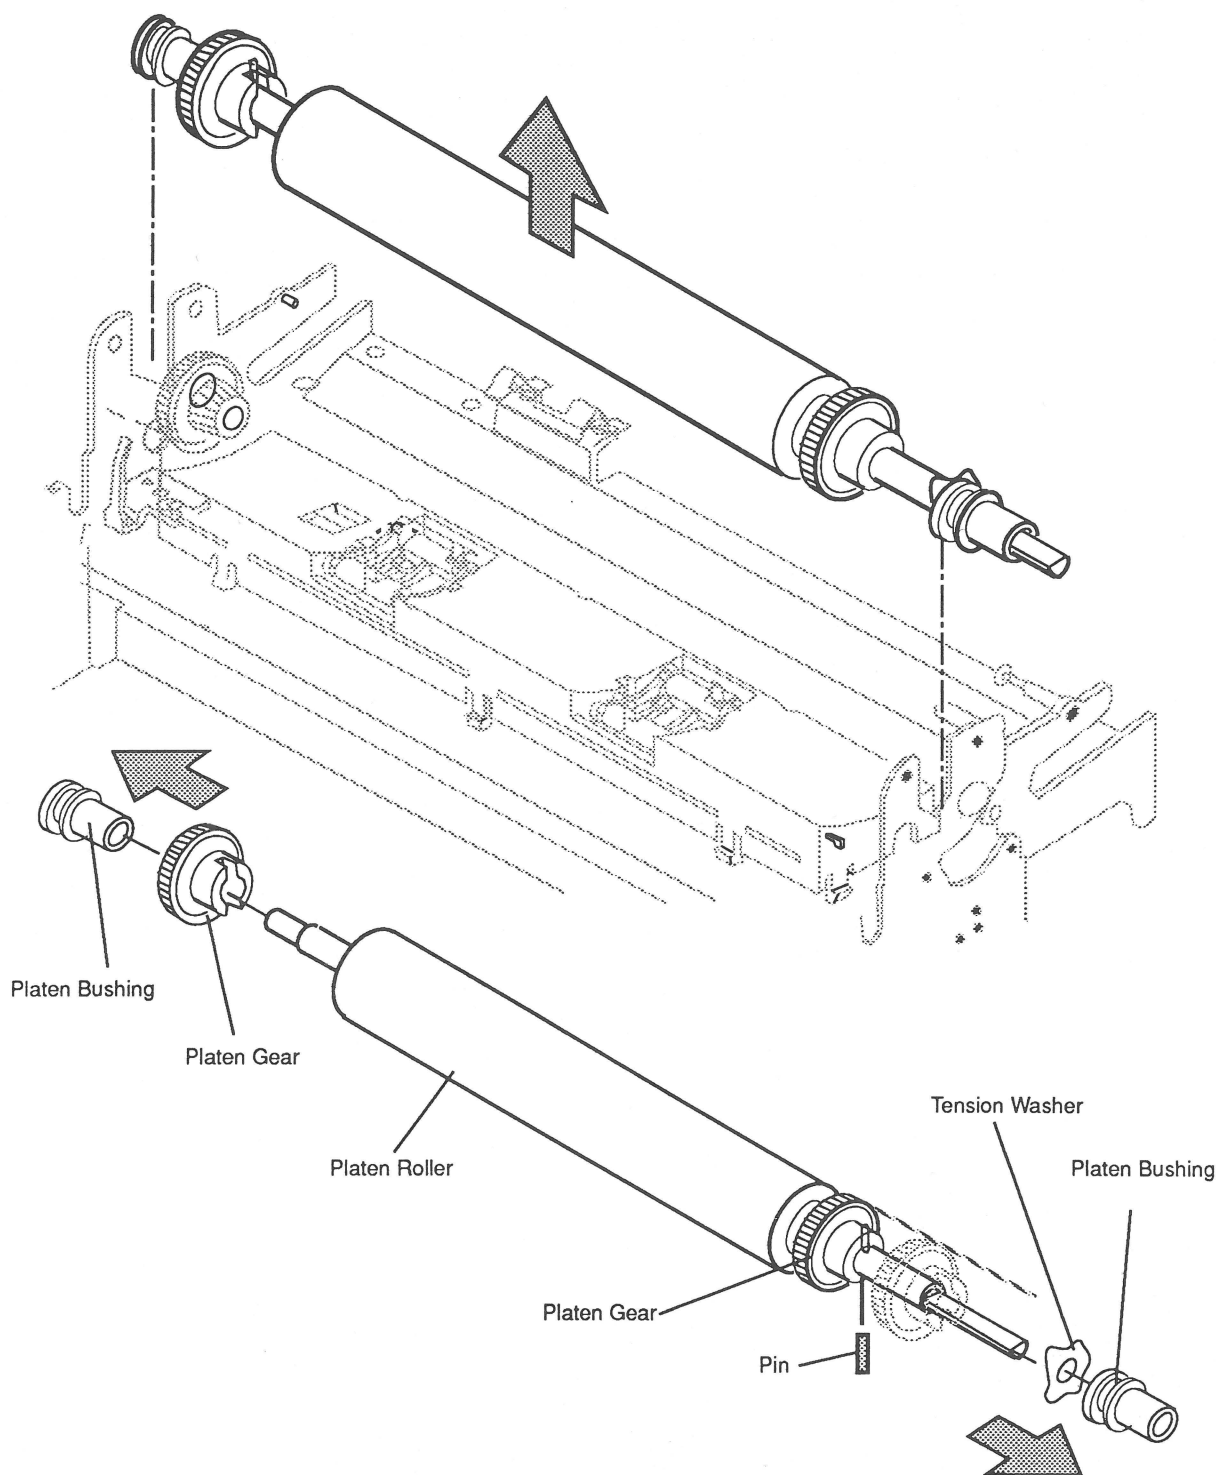

Figure 2-20 Platen Roller and Gears
The platen is the roller that is behind the paper when the wires from the print head strike the paper. It is the long, round, hard-rubber object that lays across the printer (**Figure 2-20**).
1. Assemble the right side of the platen (**Figure 2-20**) by sliding the drive gear into position, inserting the pin, gently tapping the pin down into the shaft, and sliding the tension washer into position.